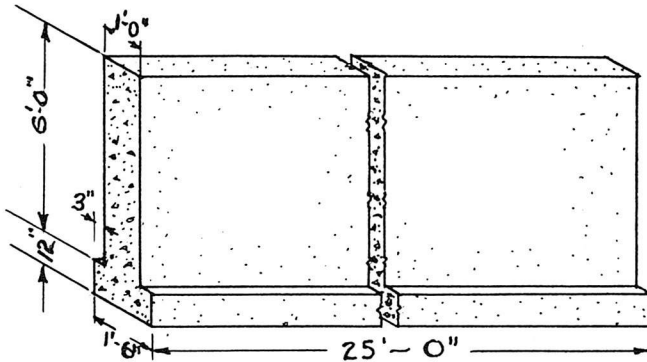

Fig. 1
7. Lathing is figured by the square yard. How many square yards of wall surface are to be lathed in the Living Room of the house in Figure 1, if the walls are 8'-0" high? Deduct 70 sq. ft. for door and window openings.
- Figure 1, shows a section of concrete foundation wall. How many cubic yards of concrete does it contain?